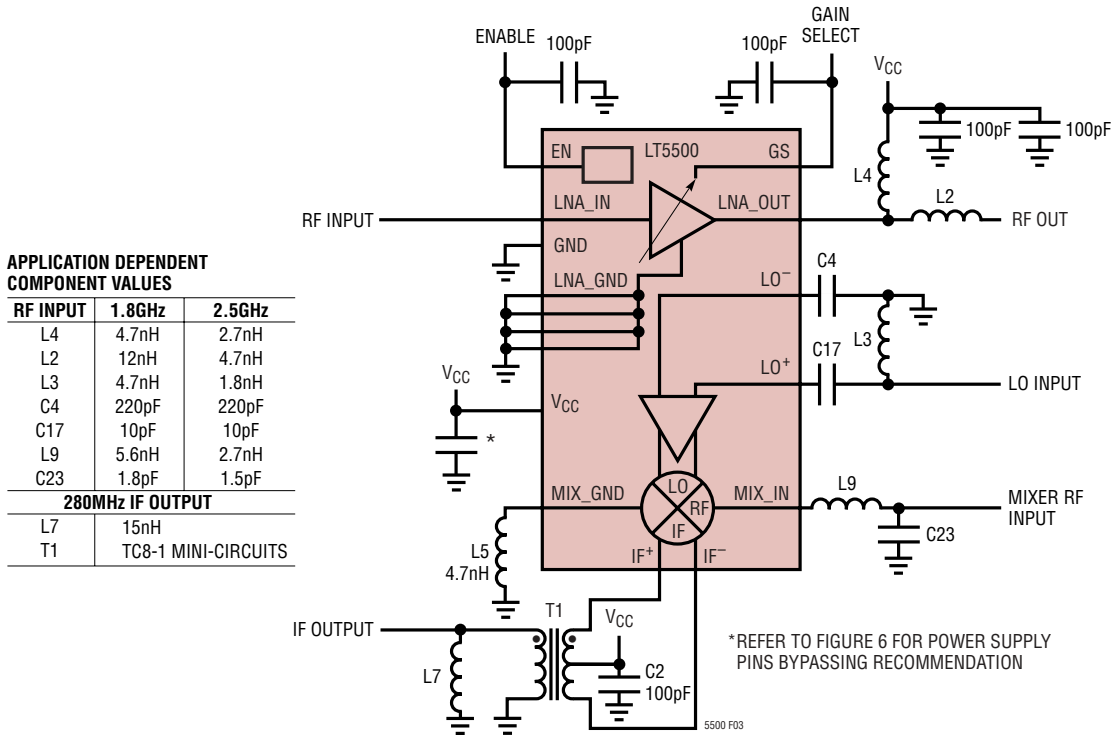
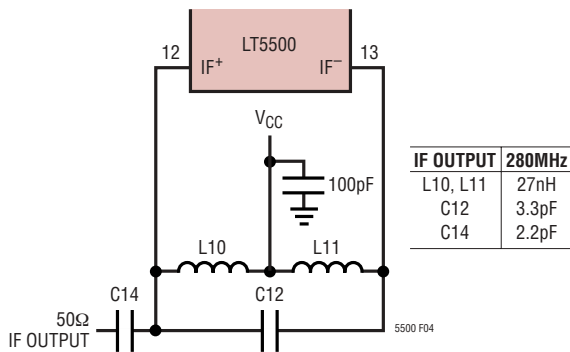
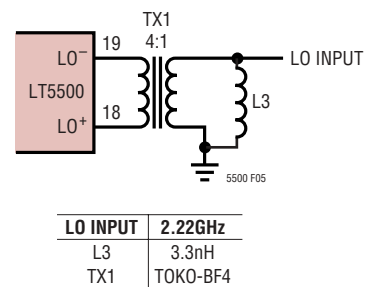

Figure 3. Simplified Test Schematic for 1.8GHz and 2.5GHz Applications
Figure 4. Alternative Mixer IF Output Matching
Figure 5. Optional Transformer-Based Differential LO Drive
**Note 3:** Component values listed in Figure 3 for 1.8GHz evaluation board were used to guarantee 1.8GHz performance.
requires a shunt inductor connected to the power supply to provide the bias current. The component configuration for matching and example component values are listed in Figure 3. If it is desirable to reduce the gain further and simultaneously broaden the LNA bandwidth, an additional shunt resistor to the power supply can be added to the output to reduce the output quality factor (Q).
The Mixer consists of a single-ended input differential pair followed by a double-balanced mixer cell. The input matching configuration for the Mixer is shown in Figure 3. The Mixer uses a 4.7nH external inductance to act as a high frequency current source at the MIX\_GND pin. Example component values for matching the mixer input are tabulated in Figure 3.
An IF transformer can be used to create a single-ended output. The additional discrete components necessary to achieve a 50Ω match are tabulated in Figure 3. Alternatively, the discrete solution shown in Figure 4 can be used to perform differential to single-ended conversion. For best LO and RF signal suppression at the IF output, a transformer should be used. If it is desirable to reduce the gain of the mixer, a resistor between the IF outputs can be used.
The LO inputs can be driven either differentially or single ended. A single-ended configuration is shown along with example component values in Figure 3. Optionally, the LO can be driven differentially as shown in Figure 5.
The evaluation board employs primarily 0402 surface mount components, particularly near the signal paths. All surface mount inductors must have a high self-resonance frequency. The component values necessary for 1.8GHz and 2.5GHz applications are tabulated in Figure 3.